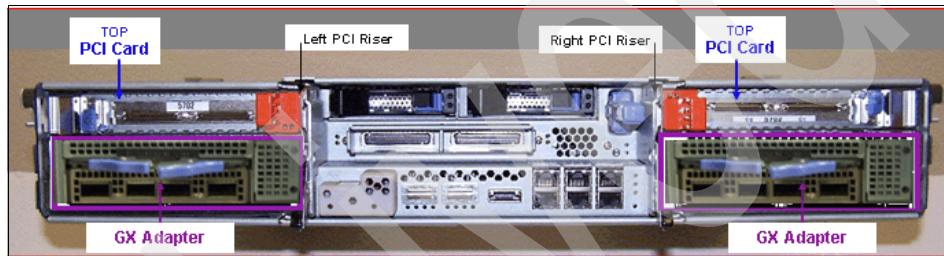

Figure 2-13 Rear view of 9125-F2A with two HCAs, FC 1816
- ▶ When a GX++ HCA is plugged into the node, the bottom PCI slot on the PCI riser is blocked (see Figure 2-13).